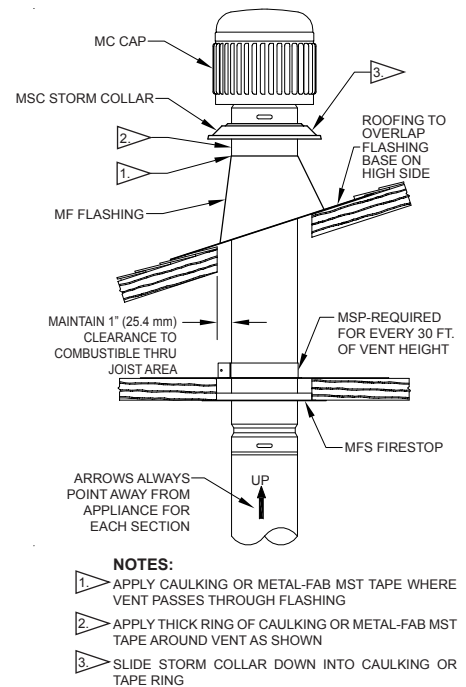

FIGURE 1
2. If this is a single, straight up installation, and the B-Vent must penetrate the ceiling, cut a hole in the ceiling 2 inches (51 mm) larger than the outside diameter (OD) of the outer casing. The B-Vent is to be centered in this opening. When installed, check to make sure the one inch (25.4 mm) clearance to combustible has been maintained. (See FIGURE 1).
At the roof, the opening should be 2 inches (51 mm) greater than the B-Vent OD. Above the roof, a flashing is required to maintain the one inch (25.4 mm) clearance to the combustibles of the roof. Installation of a storm collar allows water to drain over the flashing. Caulk as shown in FIGURE 1.